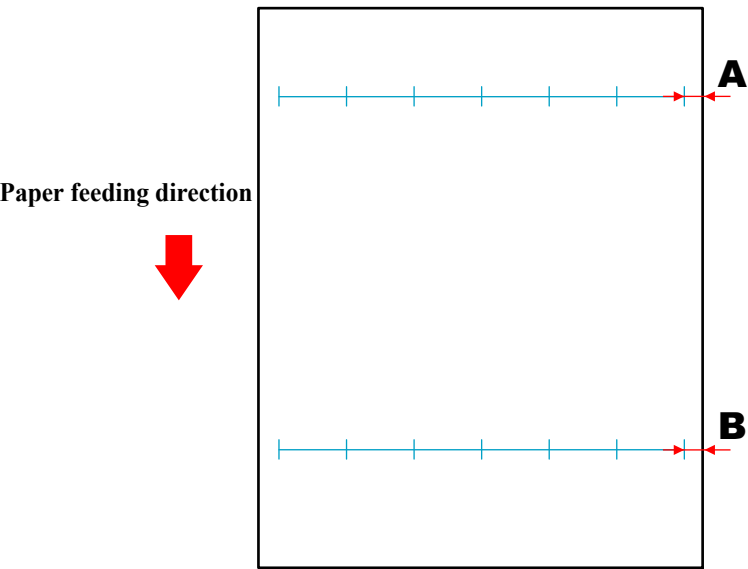

Figure 5-51. Adjustment Pattern
4. Measure the distances of A and B as shown in Figure 5-51.